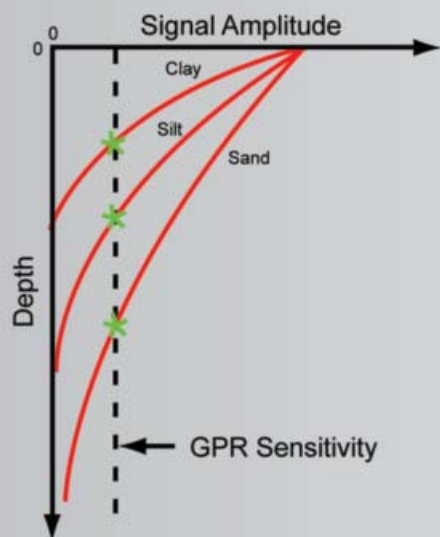

Figure 3: Signal amplitude decreases with depth depending on the absorption characteristics of the material.
3. Signal Absorption: As GPR signals travel into the subsurface they spread out over a larger volume, thereby reducing amplitude. The signals are further being absorbed by host materials. Ground or host materials absorb energy but to varying degrees (Figure 3). As a result, amplitude constantly decreases as the GPR signal travels deeper into the ground. This means that a reflection from a very high contrast target like a metal object may generate low signal amplitude simply because the object is deep or host material attenuation is high.